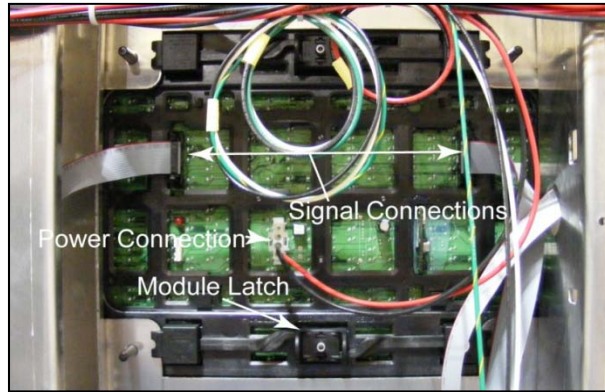

Figure 7: Module Connections
1. Disconnect power and signal cables. Refer to **Figure 7**.
5. Disconnect power and signal cables from the module. Refer to **Figure 7**.
4. Disconnect the module power and signal cables. Refer to **Figure 7**.
5. Disconnect the module power and signal cables. Refer to **Figure 7**.